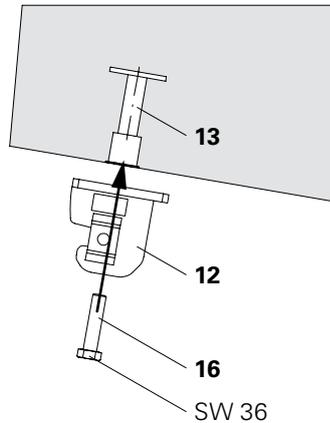

Fig. B1.02
1. Attach Suspension Head VGK (12) to the Anchor Sleeve M24 (13) by means of bolts ISO 4014-M24 x 100-8.8 (16). (Fig. B1.02)